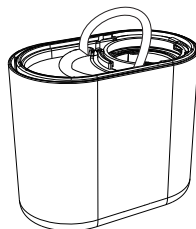

Figure 2
- **Remove the Lid:** Pull the wire handle to detach the dust cup lid from the dust cup (Figure 2).